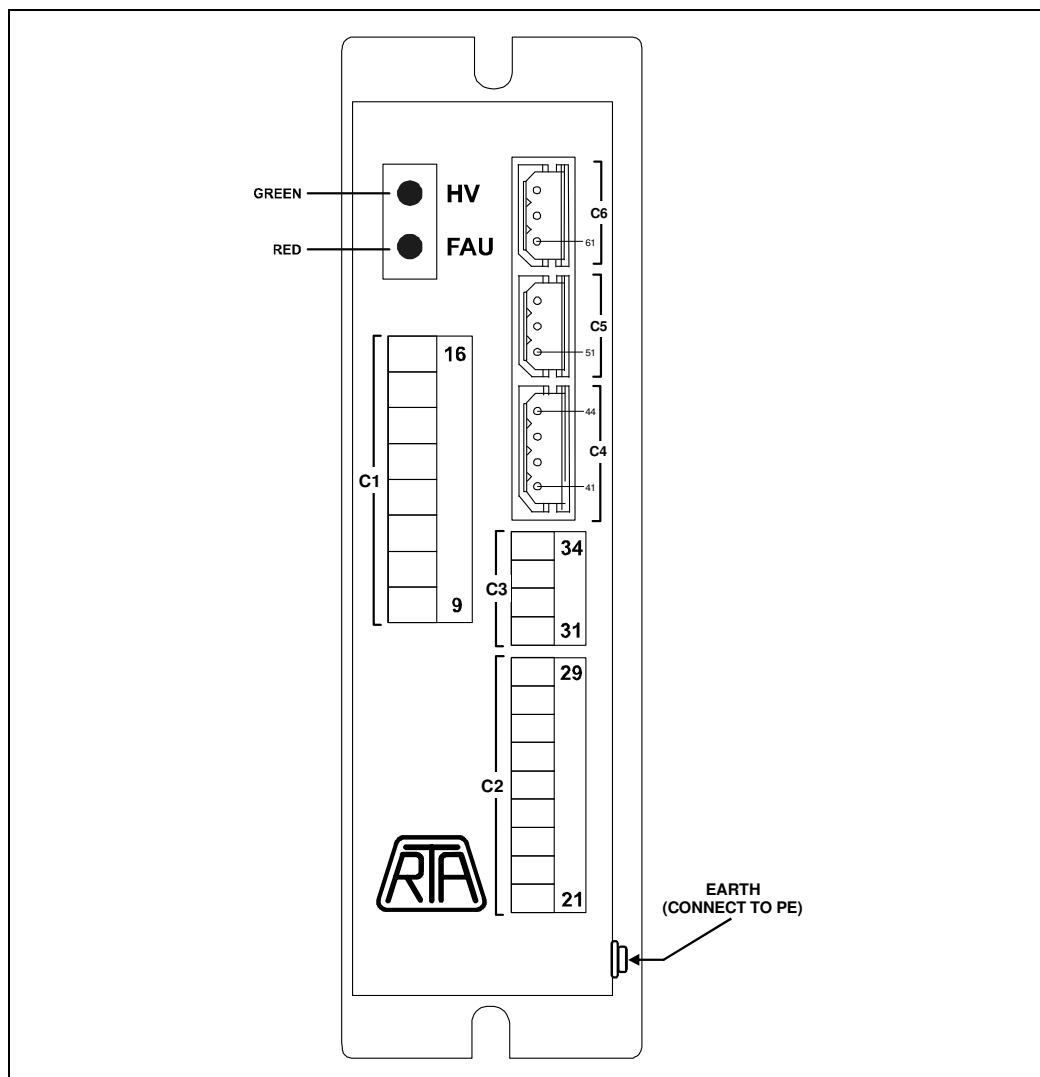

Figure 7 – Led and connectors.
- 5.2. Earth terminal – Earth terminal is on the lateral side of the box as showed in Figure 7 and has to be electrically connected to earth (PE terminal of the machine in which the drive is installed).
- 5.3. The terminal indicated as GND is the point of motor-drive system that has to be connected to earth (PE terminal) in order to guarantee the correct operation of some drive protection systems. No other point at a different potential of logic circuit and of power circuit has to be connected to earth; in particular has not to be connected to earth transformer secondary winding. Shield of shielded cables of motor outputs must be connected to terminal 16 of C1 connector and shield of shielded cables of signal outputs must be connected to PE with connection with the less possible length. Furthermore it is important to note that GND terminal is internally connected to terminal 16 of C1. See connection schemes of Fig. 7, 15 and 16.
- 6.2. Figure 7 shows the position of alert LED and connectors on the case of CSD J series drives.